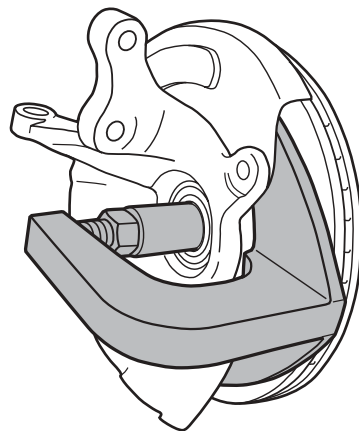

Figure 5
2) Insert the pins on the No. 6536 Ford Adapter (item 36) into the holes in the HubTamer yoke. Assemble the bolts as shown in Figure 5—this adds strength to the HubTamer. **Important: If the bolts are not assembled to the adapter and yoke, the adapter may bend during usage.**
- Hand tighten the nut on the end of the forcing screw. Check the alignment of the setup—the yoke assembly must be at a 90° angle to the knuckle. See Figure 5. Verify the HubTamer will be pushing on the knuckle casting, NOT the dust shield.